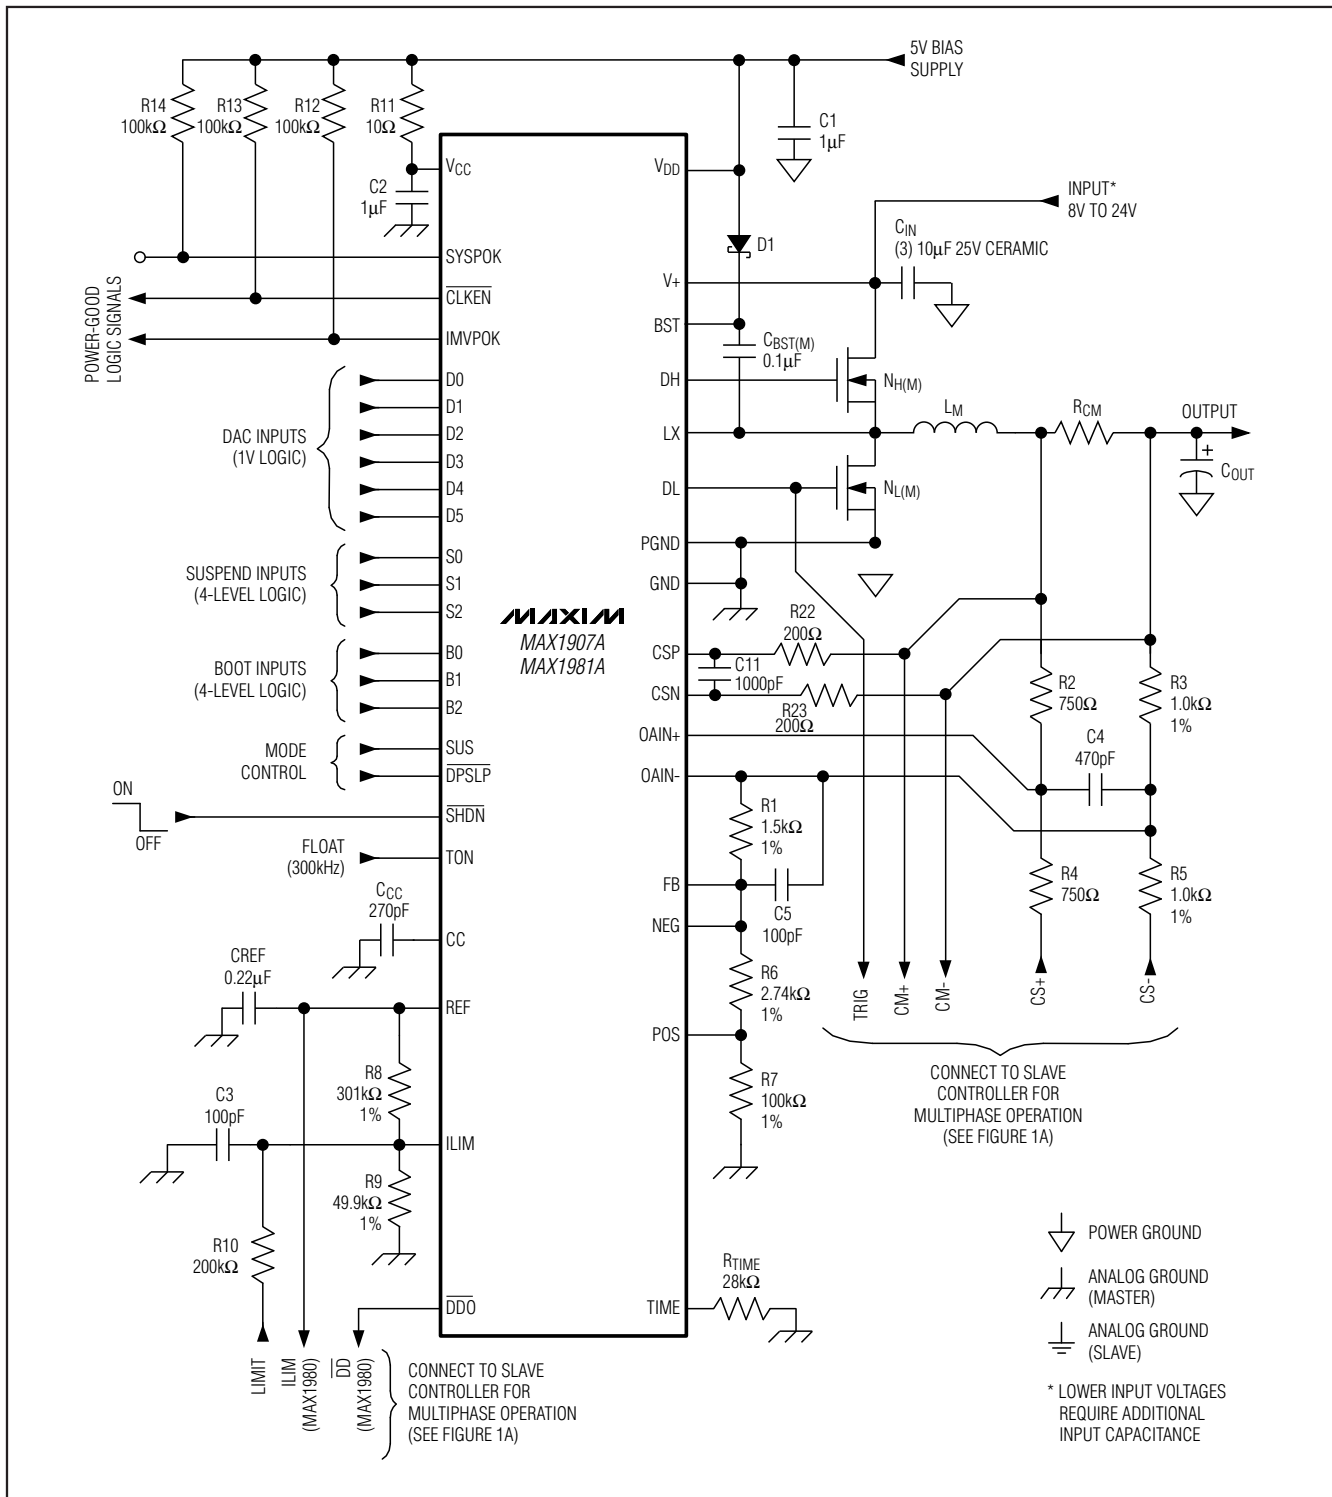
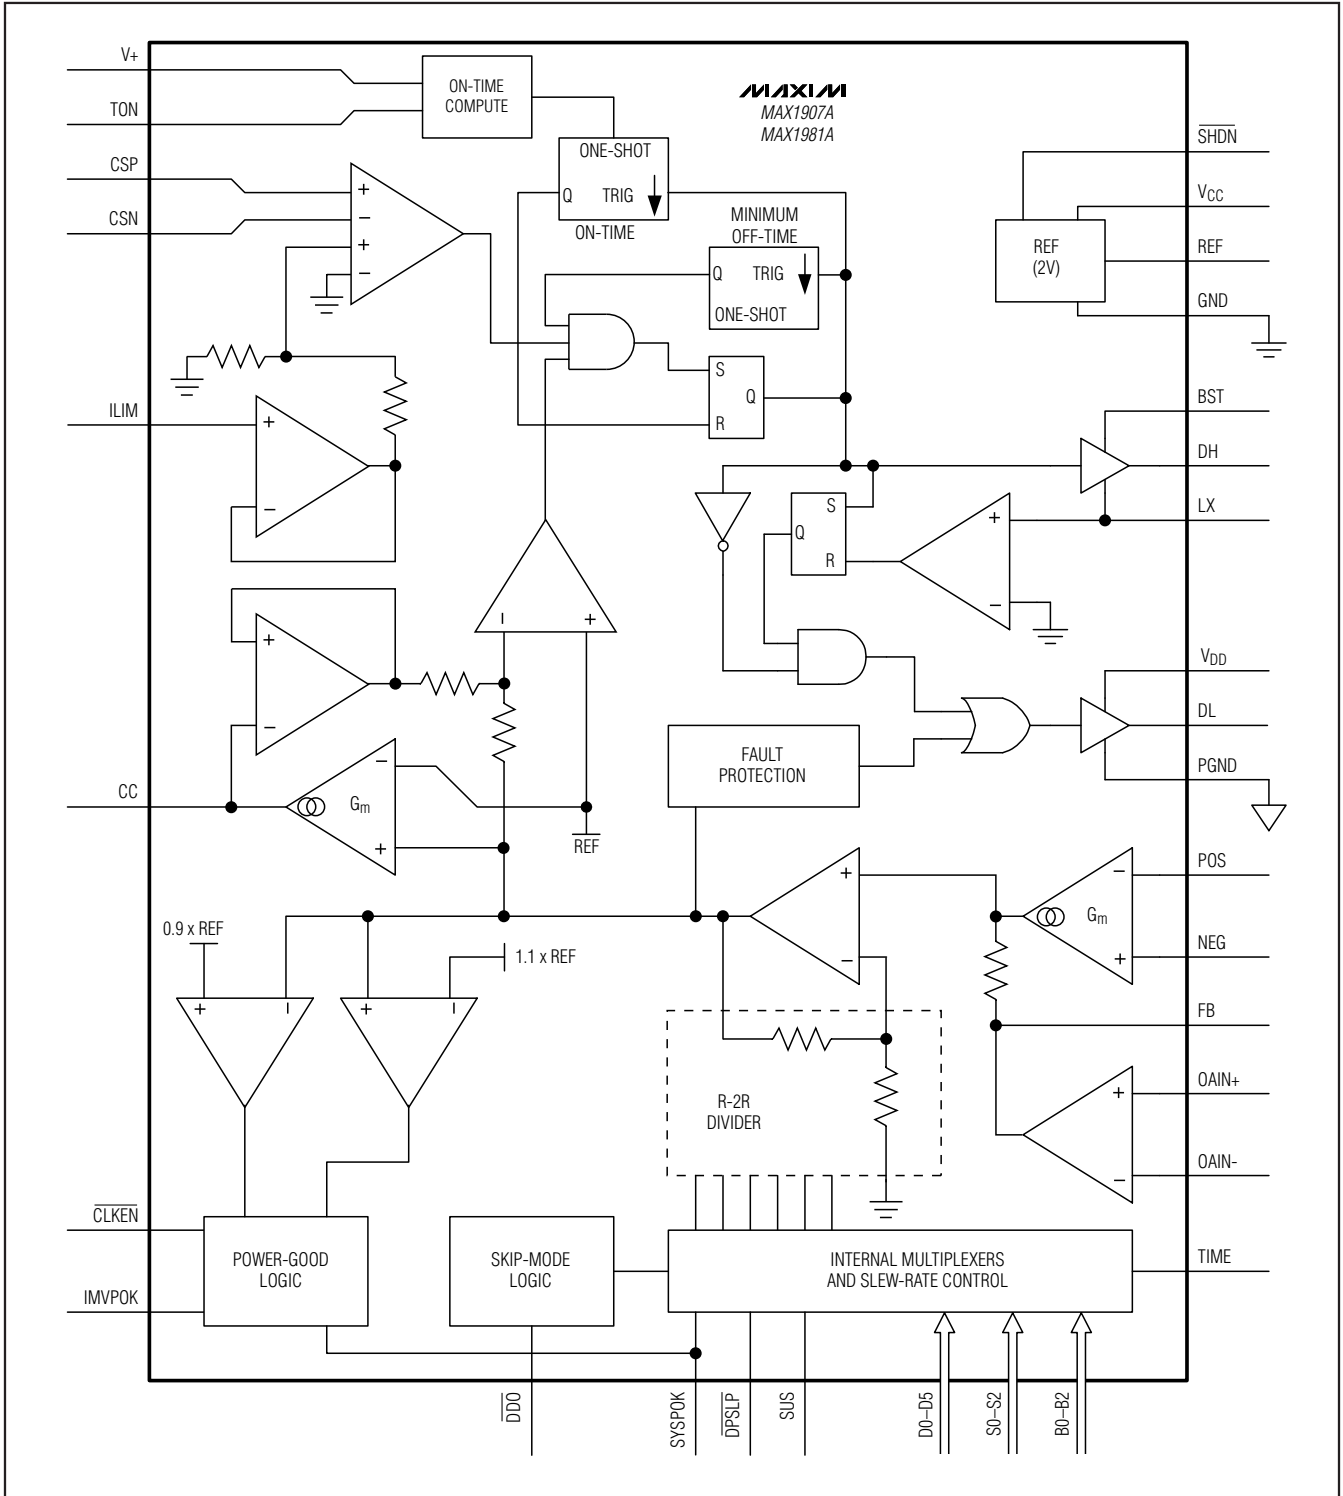

Figure 1. Standard Multiphase Application Circuit
Figure 2. MAX1907A/MAX1981A Functional Diagram
(Circuit of Figure 1, $V_+ = 12V$, $V_{CC} = V_{DD} = 5V$, B0–B2 set to 1.276V, S0–S2 set to 0.748V.)
Table 1. Component Selection for Standard Multiphase Applications (Figure 1)
The Quick-PWM control architecture is a pseudo-fixed-frequency, constant-on-time, current-mode regulator with voltage feed-forward (Figure 2). This architecture relies on the output filter capacitor's ESR to act as the current-sense resistor, so the output ripple voltage provides the PWM ramp signal. The control algorithm is simple: the high-side switch on-time is determined solely by a one-shot whose period is inversely proportional to input voltage and directly proportional to output voltage. Another one-shot sets a minimum off-time (400ns, typ). The on-time one-shot is triggered if the error comparator is low, the low-side switch current is below the current-limit threshold, and the minimum off-time one-shot has timed out.
Two transconductance amplifiers provide a fine adjustment to the output regulation point (Figure 2). One amplifier forces the DC average of the feedback voltage to equal the VID DAC setting. The second amplifier is used to create small positive or negative offsets to the feedback voltage, using the POS and NEG pins.
The POS/NEG amplifier is used to add small offsets to the VID DAC setting in deep-sleep mode ($\overline{DPSLP} = \text{low}$). The offset amplifier is summed directly with the feedback voltage, making the offset gain independent of the DAC code. This amplifier has the ability to offset the output by $\pm 200\text{mV}$. To create an output offset, bias POS and NEG to a voltage (typically V_{OUT} or REF) within their 0 to 2V common-mode range, and offset them from one another with a resistive divider (Figure 1). If V_{POS} is higher than V_{NEG} , then the output is shifted in the positive direction. If V_{NEG} is higher than V_{POS} , then the output is shifted in the negative direction. The output offset equals the voltage difference from POS to NEG.
In skip mode (SUS = high, or $\overline{\text{DPSP}}$ = low), an inherent automatic switchover to PFM takes place at light loads (Figure 3). This switchover is effected by a comparator that truncates the low-side switch on-time at the inductor current's zero crossing. The zero-crossing comparator senses the inductor current across the low-side MOSFET. Once $V_{LX} - V_{PGND}$ drops below 4mV (typ), the comparator forces DL low (Figure 2). This mechanism causes the threshold between pulse-skipping PFM and non-skipping PWM operation to coincide with the boundary between continuous and discontinuous inductor-current operation. The load-current level at which PFM/PWM crossover occurs, $I_{\text{LOAD(SKIP)}}$, is equal to 1/2 the peak-to-peak ripple current, which is a function of the inductor value (Figure 4). For a battery range of 8V to 24V, this threshold is relatively constant, with only a minor dependence on battery voltage:
The current-limit circuit employs a unique "valley" current-sensing algorithm that uses a current-sense resistor between CSP and CSN as the current-sensing element (Figure 1). If the current-sense signal is above the current-limit threshold, the PWM is not allowed to initiate a new cycle (Figure 2). Since only the "valley" current is actively limited, the actual peak current is greater than the current-limit threshold by an amount equal to the inductor ripple current. Therefore, the exact current-limit characteristic and maximum load
The inverting (OAIN-) and noninverting (OAIN+) inputs are used to differentially sense the voltage across the voltage-positioning sense resistor. The op amp's output is internally connected to the regulator's feedback input (FB). The op amp should be configured as a noninverting, differential amplifier as shown in Figure 1. The voltage positioning slope is set by properly selecting the feedback resistor connected from FB to OAIN- (see the *Setting Voltage Positioning* section). For applications using a slave controller, additional differential input resistors (summing configuration) should be connected to the slave's voltage-positioning sense resistor (Figure 1). Summing together both the master and slave current-sense signals ensures that the voltage-positioning slope will remain constant when the slave controller is disabled.